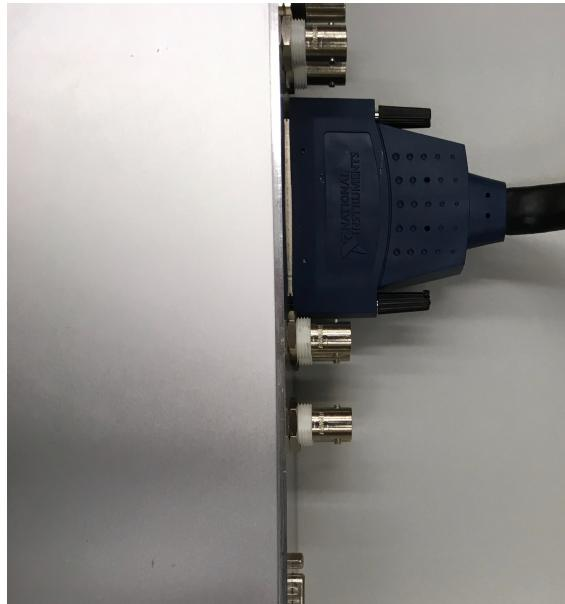

Figure 12: NI cable plugged into WHISPER Box
- i. Connect the NI cable to both the USB-6366 card and to the WHISPER Breakout Box (Figure 12). Tighten the jackscrews on either side of the cable.